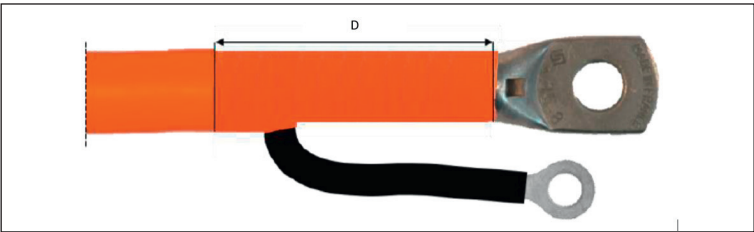

Fig. 8-33: Single-core HV power cable: stripped section (D)
- Double-wrap the stripped section on the HV power cable (Fig. 8-33, D) with insulating tape.